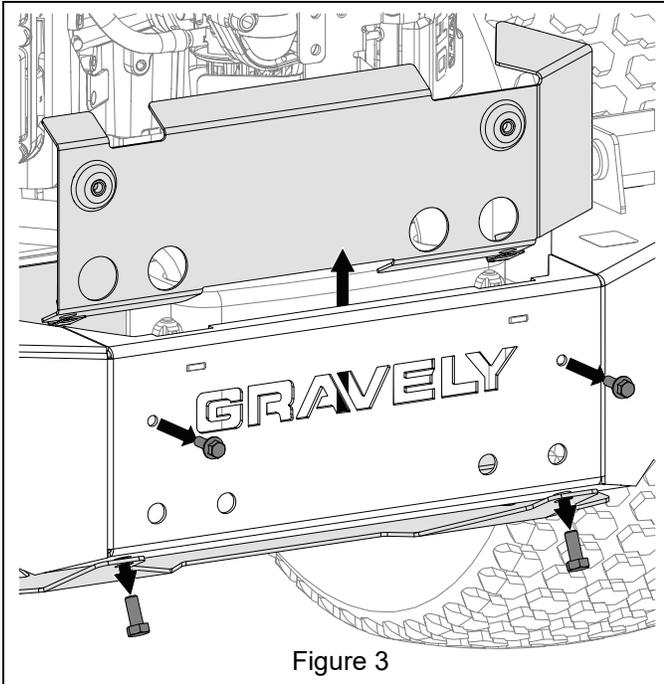

Figure 3
- Remove and retain hex bolts retaining heat shield to bumper and remove heat shield or move out of the working area. See Figure 3.
- Reinstall heat shield. See Figure 3.